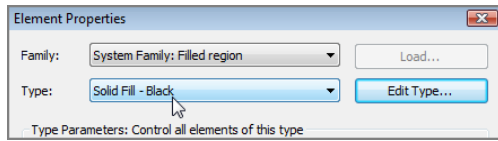

FIGURE 12.24: Changing the region to Solid Fill - Black
2. In the Properties dialog, click the Edit Type button, and make sure Type is Solid Fill - Black, as shown in Figure 12.24.